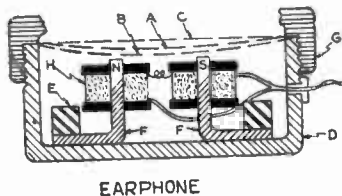

Fig. 27. Cross-section view of a typical telephone receiver.
They usually consist of two separate earpieces connected in series and held to the ears by a metal headband. Each earpiece has a metal or hard rubber cup, D, Fig. 27, with a hard rubber cap G. In the bottom of the cup is a strong permanent horseshoe magnet E, with pole pieces F. Around each pole piece a coil H, of many thousands of turns of fine insulated wire (No. 40 to 50), is wound. The two coils are connected in series so the current passes through both windings. Sensitive headsets have 10,000 or more turns of wire on the coils, so that even very feeble currents flowing through them produce an appreciable magnetic field. Suspended above the pole pieces, and very close to them, is a thin, flexible, soft iron diaphragm about .004 inch thick.
45. EARPHONE OPERATION: When no current flows through the coil, the magnetism of the permanent magnet attracts the iron diaphragm and bends it slightly, as shown by position A in Fig. 27, producing an initial de-